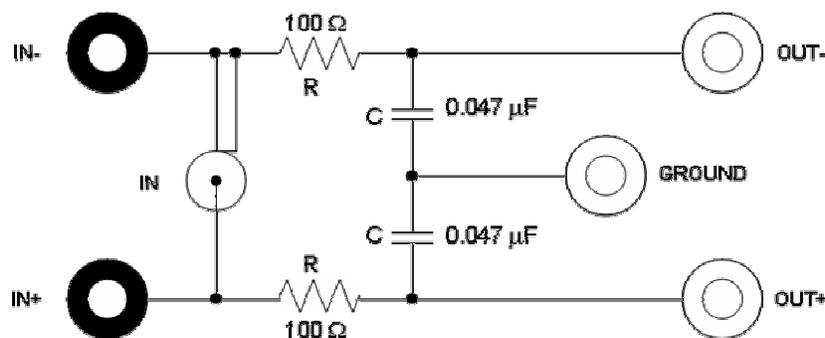

Figure 2. Schematic of the RC Low-Pass Filter for One Channel
This formula assumes a filter cutoff frequency of approximately 30 kHz and a simple component selection, e.g., a 100- Ω resistor (R) and 0.047- μ F capacitor (C). The resulting f_o was 33.86 kHz, and the circuit is shown in Figure 2.